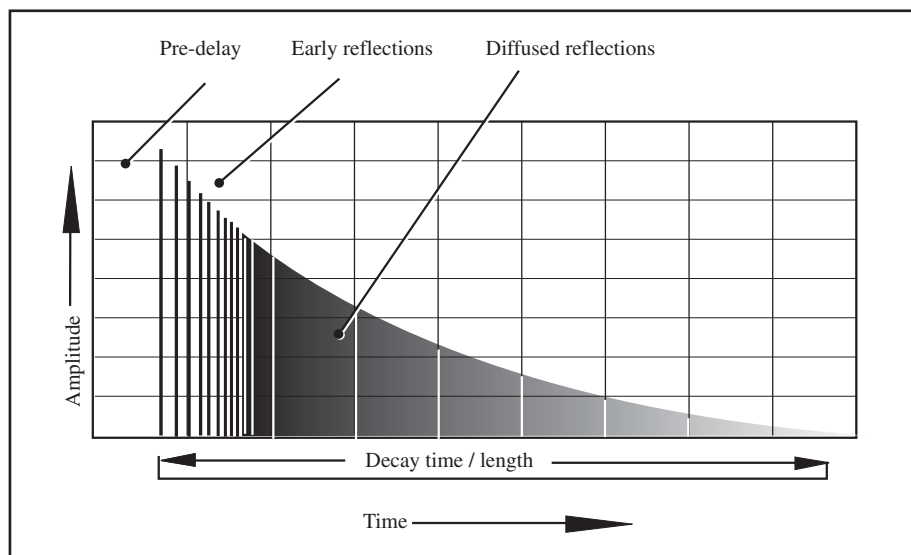

FIGURE 12.1
- **What is reverb?** Figure 12.1 shows reverb as a series of dense, multiple reflections of varied repeats that are blended into a smooth decaying tail. Reverb in today's studio usually means a digital effects unit or program.